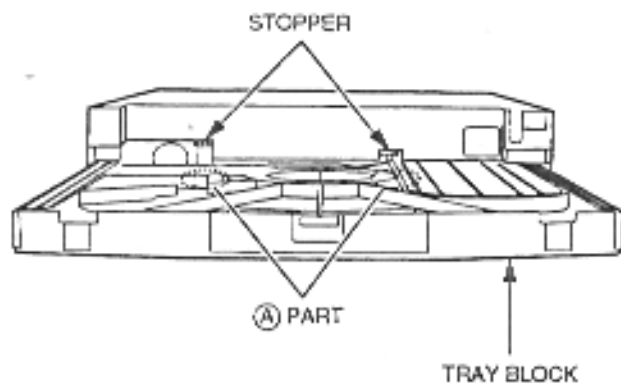

Fig. 3-10
2) In order to disengage the two stoppers, carefully press the (B) part of the TRAY BLOCK downwards while pulling the TRAY BLOCK out as shown in Fig. 3-10.